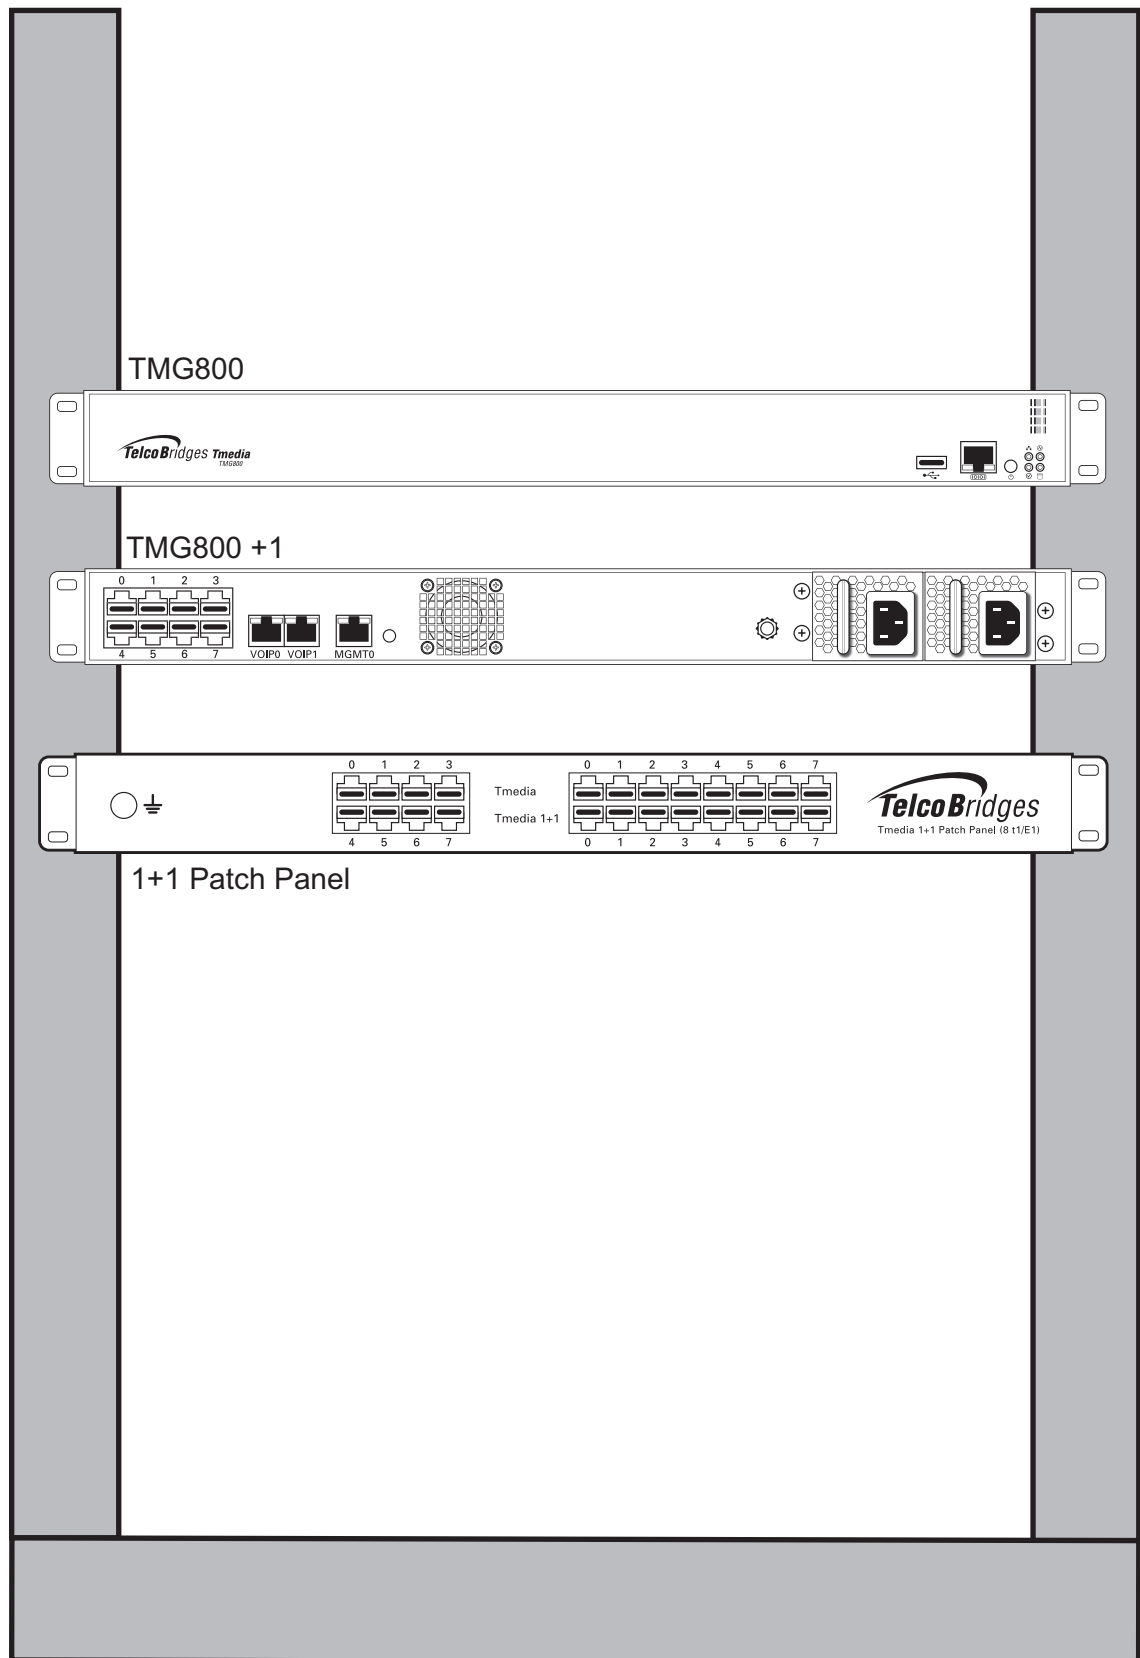

Figure 2.1 Rack Mounting a Tmedia 1+1 System
1. Using four metal screws, attach one angle bracket to the front, left-hand side of the TMG800, when viewed from the front, as shown in figure 2.1 on page 10. Do the same for the angle bracket on the right-hand side.
1. Install the TMG800 +1 below the TMG800, as shown in figure 2.1 on page 10.
1. Install the patch panel below the TMG800 +1, as shown in figure 2.1 on page 10.